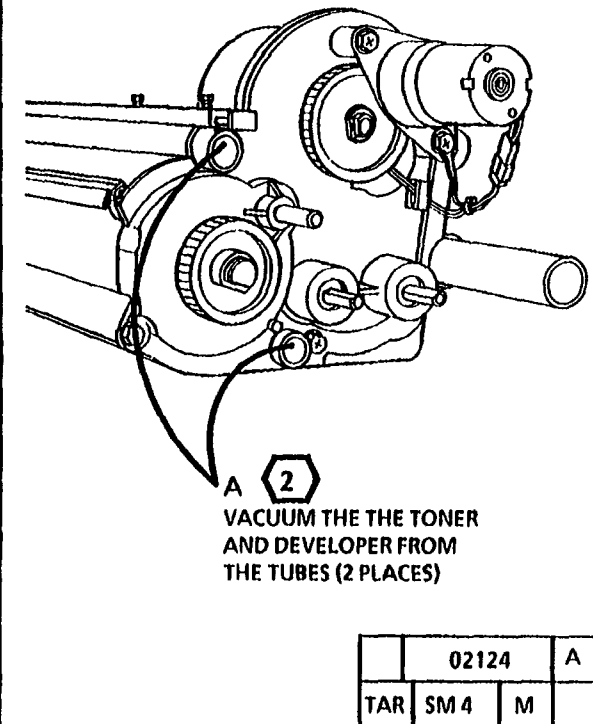

Figure 4. Vacuum the tubes on the developer module
8. (Figure 4): Using a vacuum cleaner, clean the housing where the pressure equalizer tubes attach.